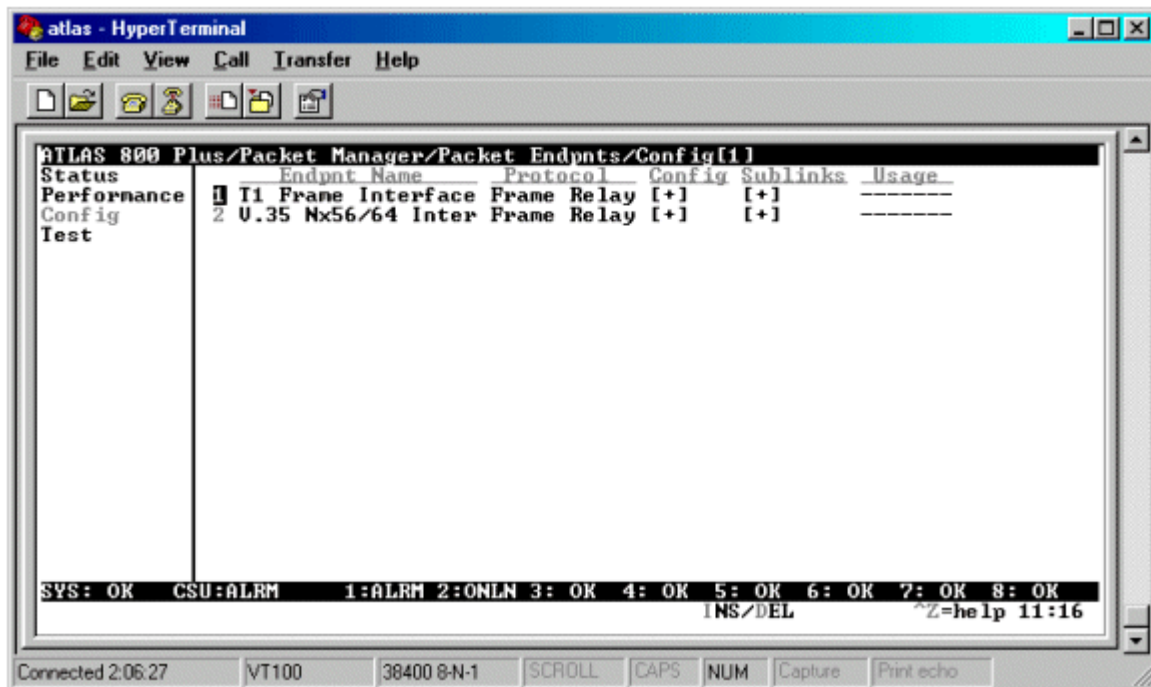

Figure 3
1. Under **Packet Manager**, **Packet Endpoints**, and **Config**, create an endpoint for each physical port. For this application there will be an endpoint for the T1 interface, and also a separate endpoint for the V.35 Nx56/64 interface. Choose **Frame Relay** as the **Protocol** for all endpoints as shown in Figure 3. Both endpoints will use RFC 1490 frame relay encapsulation.